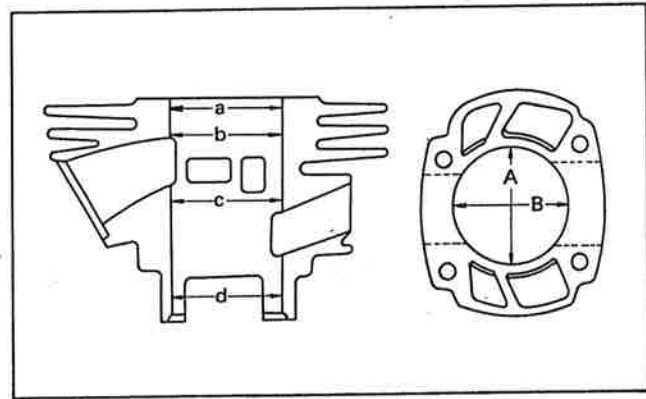

Fig. 3-3-3
2. Using a cylinder gauge set to standard bore size, measure the cylinder. Measure front-to-rear and side-to-side at top, center and bottom just above exhaust port. Compare minimum and maximum measurements. If over tolerance and not correctable by honing, rebore to next over-size. (Fig. 3-3-3, Fig. 3-3-4)